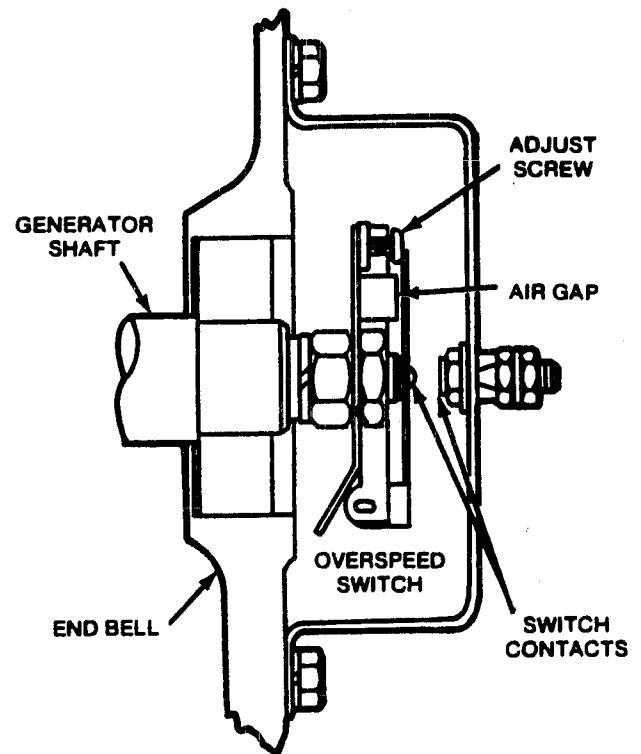

FIGURE 2 OVERSPEED SWITCH
2. Set the overspeed switch adjustment screw (Figure 2) for shutdown between 2500 and 2700 RPM's. If this does not prevent shutdown on start, it may be necessary to replace the governor controller.